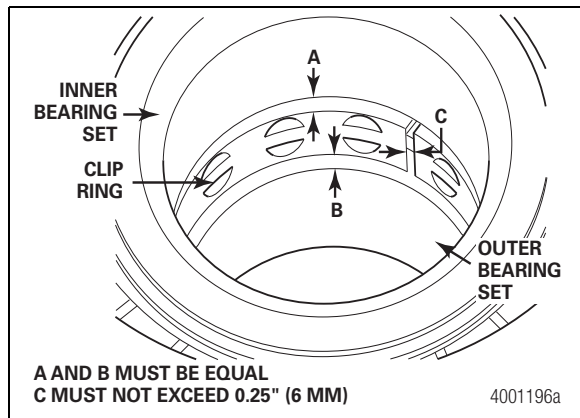

Figure 4.16
- A. The inner clip ring has not become dislodged in shipment and is in correct alignment with the inner and outer bearing sets. The gap between the inner and outer bearing sets and the clip ring must be equal. Figure 4.16.
- B. The gap between the ends of the clip ring must be equal and not exceed 0.25-inch (6 mm). If necessary, adjust by hand. Figure 4.16.